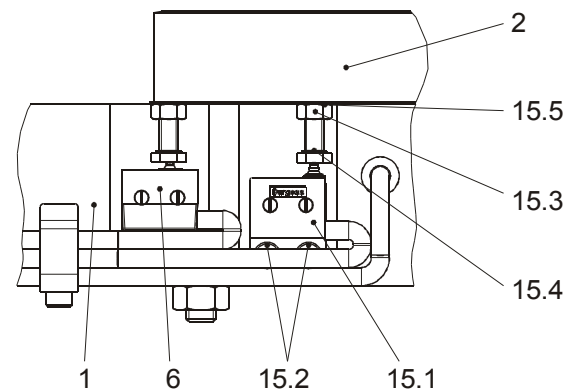

Fig. 10
Wear Monitoring (15) Fig. 10 (Option, dependent on Type)
Only one microswitch for wear monitoring (15) is required per ROBA®-twinstop®, which is mounted onto the brake as shown in Fig. 10.
Manufacturer-side Adjustment and Functional Inspection of the Microswitch (15.1), see Fig. 10